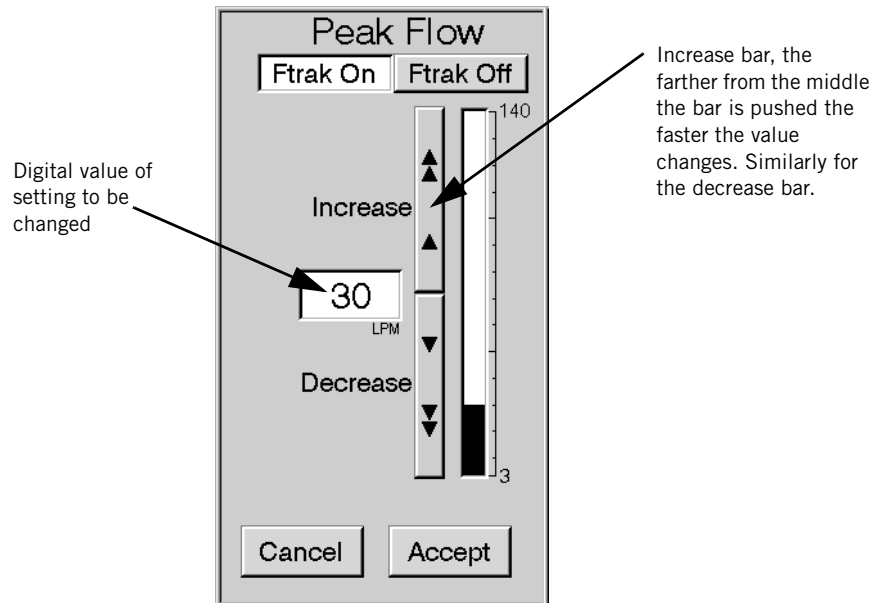

Figure 8-1: Entering Settings and Alarm Parameters
1. Select the parameter to be changed by pressing the associated button. A screen such as the one shown in Figure 8-1 appears.